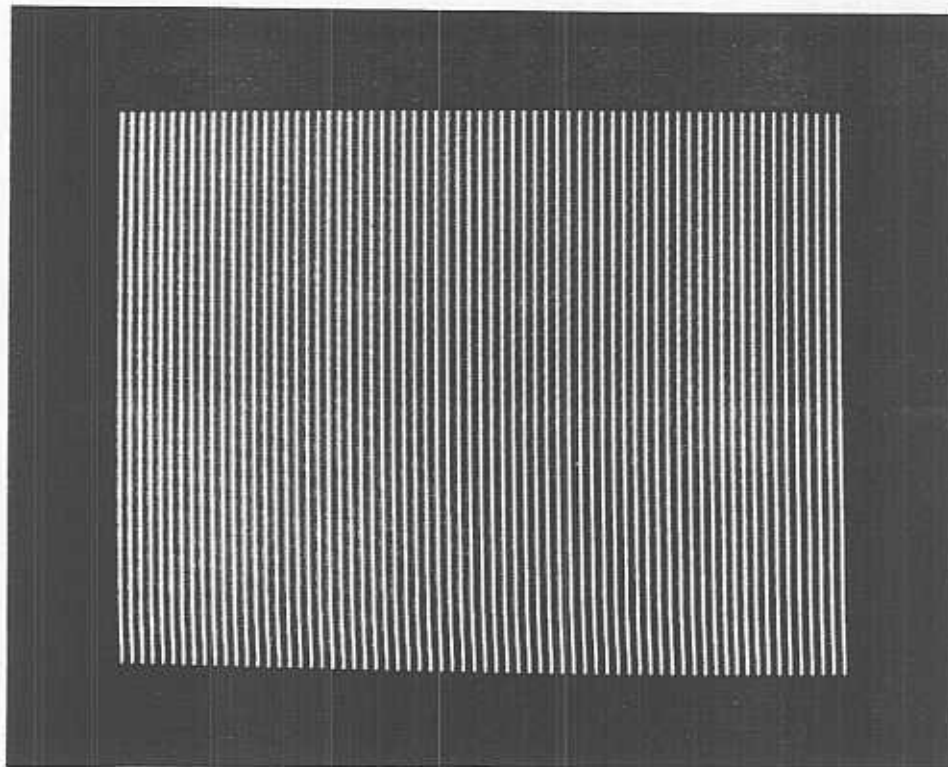

Figure 2-6. CRT Test Pattern 1
- e. The focus pattern {B}s and {J}s (CRT test pattern 3) shown in figure 2-6. This remains for about 3 seconds.